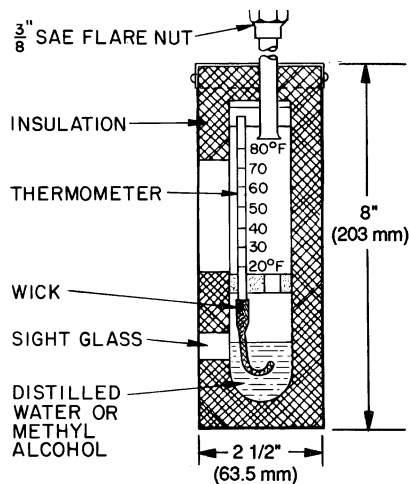

Fig. 30 — Typical Wet-Bulb Type Vacuum Indicator
- absolute pressure manometer or wet-bulb vacuum indicator (Fig. 30)